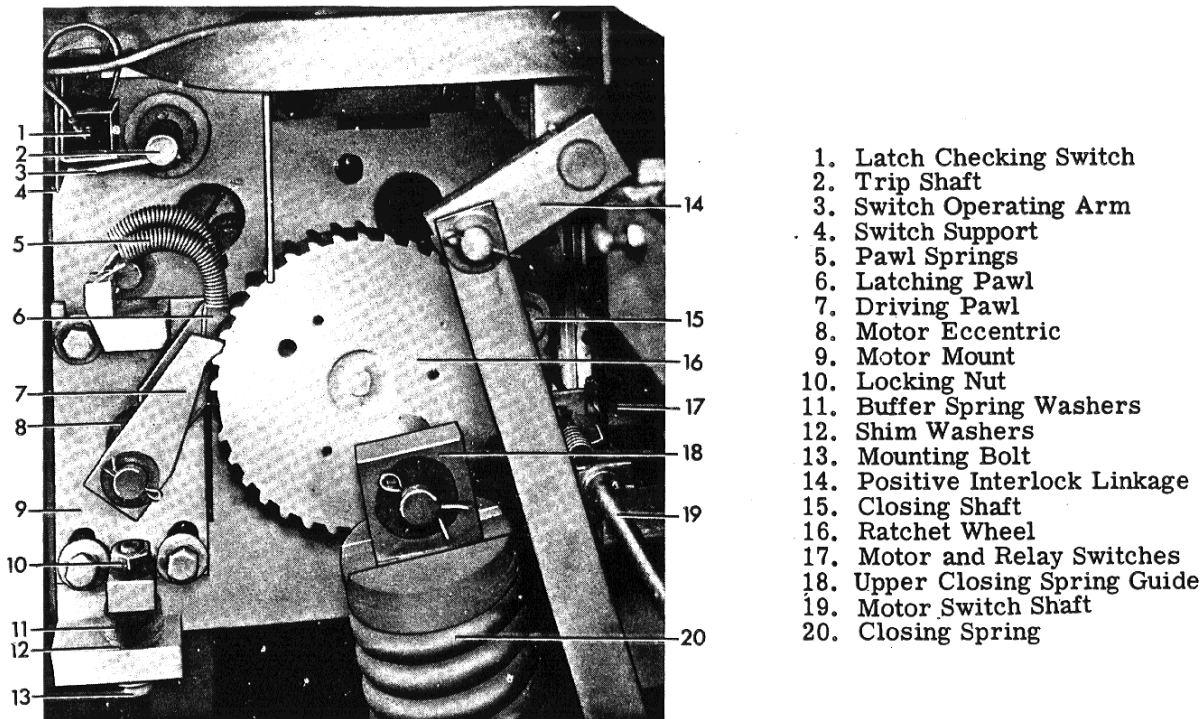
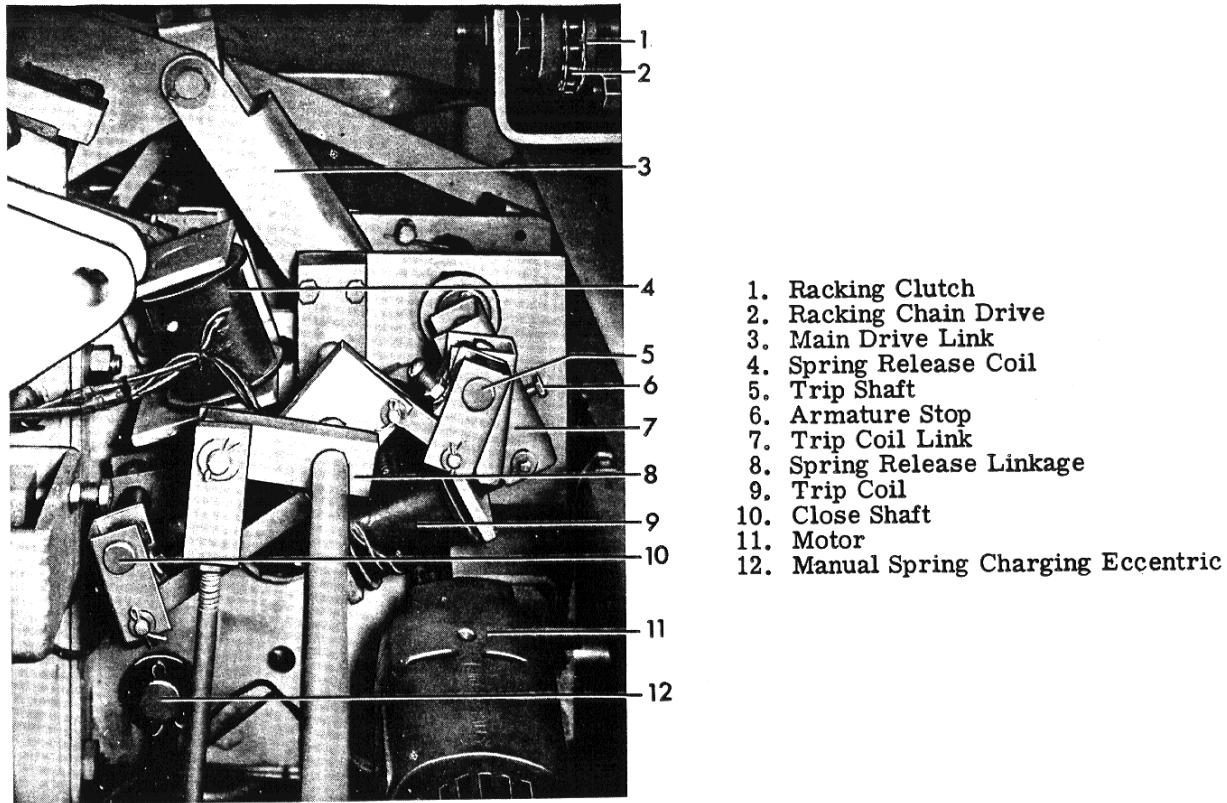
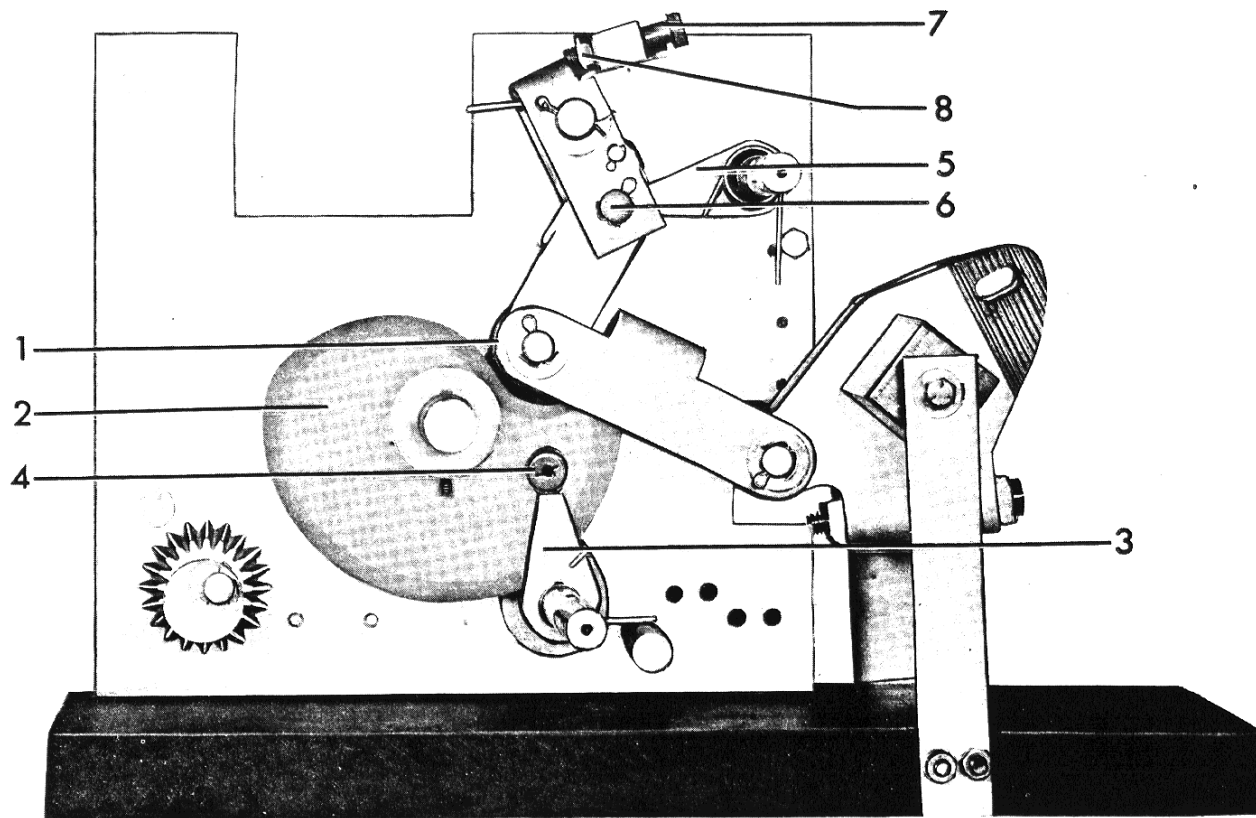

Figure 8 (8040305) Mechanism-Right Side
Figure 10. (8040319) Mechanism-Left Side
Figure 11. (8039445) Mechanism Linkage (Motor and Right Side of Mechanism Frame Removed)
The spring release interlock (8) Fig. 10 trips open the breaker and discharges the closing spring whenever the breaker is inserted or removed from
The mechanism has a high speed gear motor that compresses a closing spring through the action of an eccentric, pawl and ratchet assembly. The rotary action of the motor (11) Fig. 10 is converted to a straight stroke pumping action through the eccentric (8) Fig. 8 that carries a spring loaded driving pawl (7). The pawl advances the ratchet wheel (16) only a few degrees each stroke where it is held in position by the latching pawl (6). When the ratchet wheel has been rotated approximately 180 degrees, the closing spring will be fully compressed. As the ratchet wheel continues to rotate, the spring load will shift over center and attempt to discharge. After only a few degrees of rotation, the closing roller (4) Fig. 11 will engage the closing latch (3) and the compressed spring will be held in repose until a closing operation is required. During the last few degrees of the ratchet wheel rotation, the motor and relay switches (17) Fig. 8 are released and the driving pawl is on a smooth portion of the ratchet wheel. This allows the motor and driving mechanism to coast to a natural stop expending all residual energy.
Closing the breaker is accomplished by energizing the closing solenoid (4) Fig. 10 or manually pressing the close button. In either case, the closing latch is removed from the spring blocking location allowing the spring to discharge. The energy of the spring moves the cam (2) Fig. 11 that closes the breaker through a simple linkage that remains trip-free at all times. A monitoring switch (4) Fig. 15 on the closing latch will start the spring charging motor when it is fully reset after a closing operation.
The breaker can be opened either electrically by energizing the trip coil (9) Fig. 10 or manually by pushing the trip button. In each method the trip shaft and latch (5) Fig. 11 is rotated permitting the operating mechanism to collapse. The energy stored in the opening spring (5) Fig. 5 is released opening the breaker. At the end of the opening operation the dashpots (10) will stop the contacts and linkage and absorb any excess energy from the system thereby limiting contact rebound. During this operation, the trip coil is deenergized and upon completion of the opening operation, the operating mechanism is returned to its reset position, ready for closing.
If the trip coil circuit is energized while the breaker is closing, the trip plunger will move the trip latch (5) Fig. 11 away from the trip roller (6) causing the mechanism linkage to collapse and the breaker to perform a close-open operation. The closing cam (2) will complete its closing stroke and the springs will recharge as in a normal closing operation.
The cam follower (1) Fig. 11 must be adjusted to have a clearance of .030" to .060" to the cam (2). Since these parts are almost totally enclosed, it is very difficult to make this measurement. An easier method to assure the cam clearance dimension is to measure the clearance between the latch (5) and latch roller (6) when the stop screw (7) has been removed. With the stop screw backed off three or four turns, the linkage will shift until the cam follower and cam touch. At this time there should be a clearance of .170" to .200" between the latch and the latch roller.
Refer to Fig. 11. The closing latch (3) should strike the closing roller (4) approximately in the center. Apply a thin film of grease to the end
The strikers for operating the motor switch (17) Fig. 8, positive interlock switches (2) Fig. 16, closing latch monitoring switch (4) Fig. 15 and trip latch checking switch (1) Fig. 8 should be adjusted to a clearance of  $1/64''$  to  $1/32''$  from the switch support. The switch supports should be loosened and the switch moved to obtain this
advance the ratchet wheel sufficiently to allow the latching pawl (6) Fig. 8 to fall into the ratchet teeth. Since the latching pawl is an integral part of the motor mount, the entire mounting must be moved to allow a clearance between the latching pawl and the ratchet tooth of .020" to .040" when the manual driving pawl is fully advanced and the maximum load of the closing spring is on the ratchet.
After checking the pawl clearance and determining the amount of movement required in the motor mount, the locking nut (10) Fig. 8 and bolt (13) can be removed and the necessary shim washers (12) added to or removed from the assembly. Replace the bolt and tighten hand tight plus one half turn with a wrench. Hand wind the closing spring and again check the clearance with the closing spring load applied. Secure the bolt (13) by replacing nut (10) on the assembly.
The latch checking switch (1) Fig. 8 must make contact when the latch (2) Fig. 9 is within 1/16" of the latch stop (6). Rotate the trip latch away from the stop by pushing the trip
button (9) Fig. 1. Allow the latch to reset slowly until the switch contacts close. This can be checked by the use of a continuity checking lamp or a bell set. The dimension should be a maximum of 1/16" from the latch to the support. If adjustment is necessary, move the switch support (4) Fig. 8.
A spring release interlock (8) Fig. 10 will assure that the breaker contacts are open and the closing springs are discharged when the breaker is being inserted or withdrawn from the metal-clad unit, the release interlock will trip the breaker open and hold the mechanism in a trip-free position while discharging the closing springs.